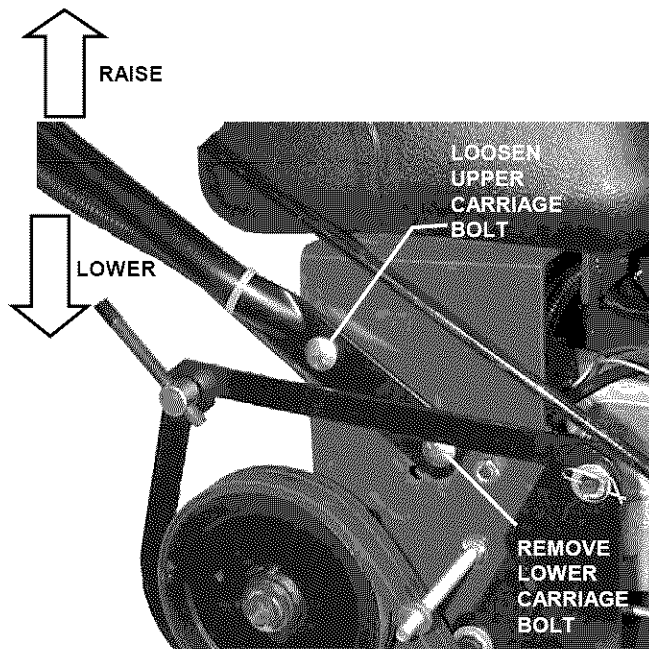

FIGURE 5.3
1. Loosen the upper carriage bolt and nut on both left and right lower handles. See Figure 5.3.
3. Raise or lower handlebar to desired height. See Figure 5.3.
4. Align handle with one of the adjustment holes in the tank support bracket and insert the carriage bolt. See Figure 5.3.